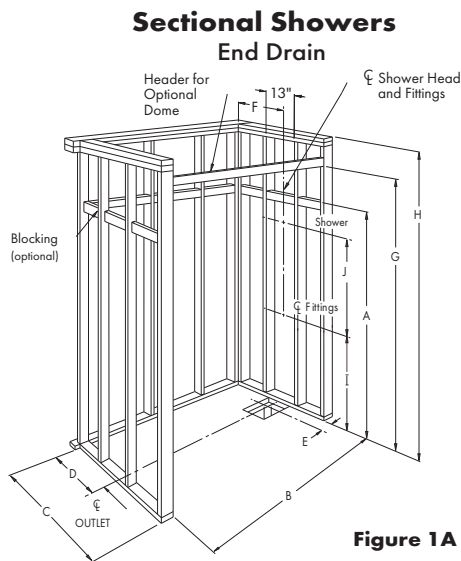

Figure 1A
3. Review Figures 1A and 1B to make sure alcove is of proper size. If a fire rated alcove is required, approved finish material must be installed prior to unit installation. Access to drain and supply connections should be provided so that these connections may be made after the unit has been installed. Framing alcove must reflect dimensions on diagrams to permit unit installation. Note in diagrams the required opening in the floor to provide clearance for the drain fitting and connection.